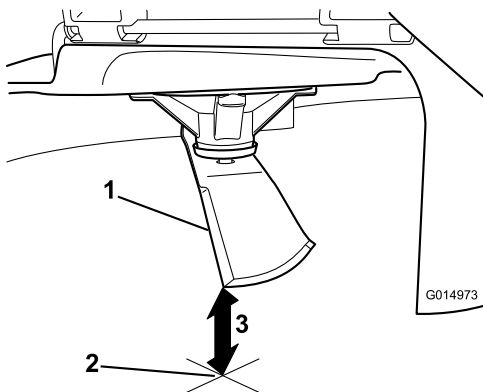

Figure 87
3. Measure from the tip of the blade to the flat surface (Figure 87).